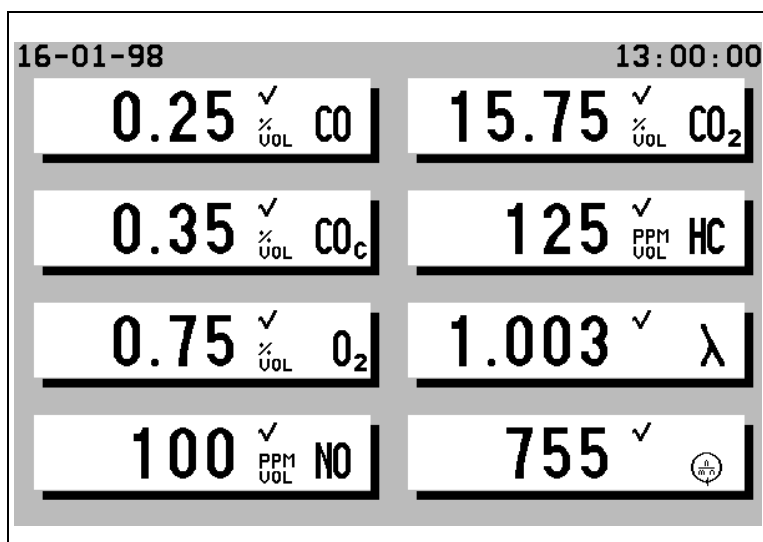

Figure 1-11: Measurement Screen
2. Turn the analyzer power switch on (I). The Start-up Screen displays.
- When the analyzer completes the warm-up cycle, it enters in the operating mode and the gas measurement page displays. When the exhaust sample probe is installed, the measurement results of the exhaust gases are shown on the Measurement Screen Figure 1-11.